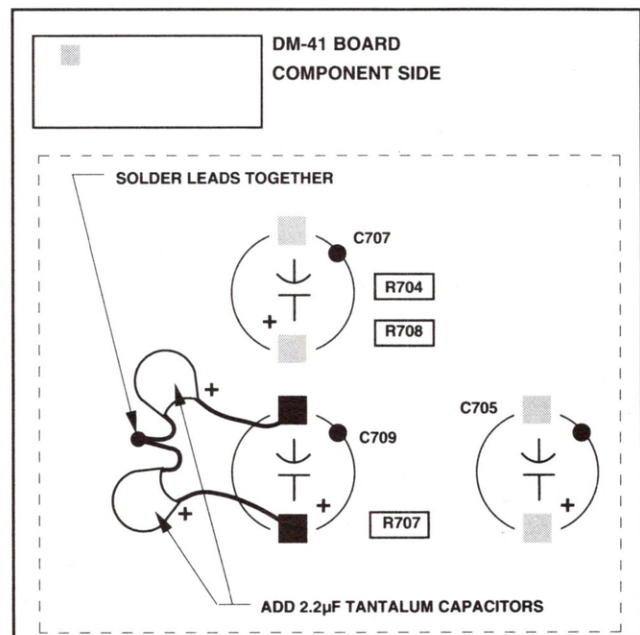

Figure 1
2. Solder leads of new capacitors as shown in Figure 1.